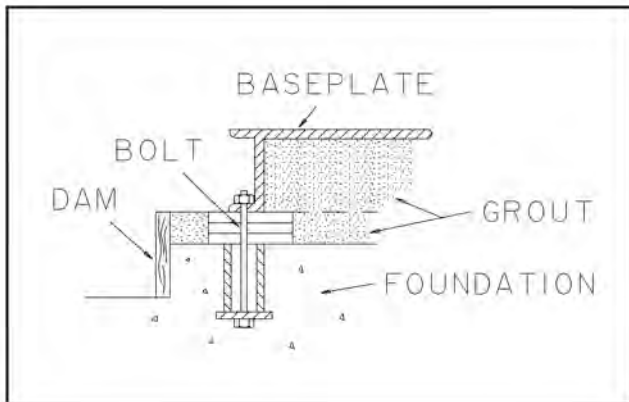

Figure 11:
5. Fill remainder of baseplate with grout. Remove air as before (Fig. 11).